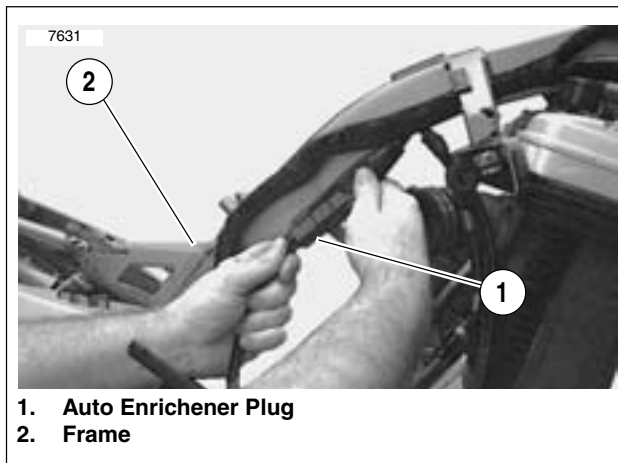

Figure 3-34. Auto Enrichener Plug
20. See Figure 3-34. Connect auto enrichener plug.